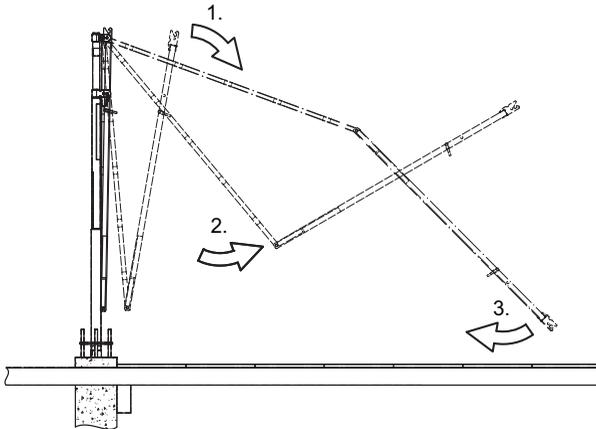

Figure 24. Unfolding the SkyReach Anchor.
2. Unpin the Lock Pin located at the lower lug of the mast, which secures the boom and brace. Release the SkyReach Anchor boom and brace and proceed according to Figure 24.